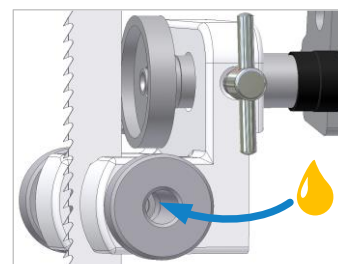

Figure 54: Oil APA side rollers
- Remove the sealing plugs from the rollers and put a few drops of oil in the bearings (see ⇒ Figure 54).